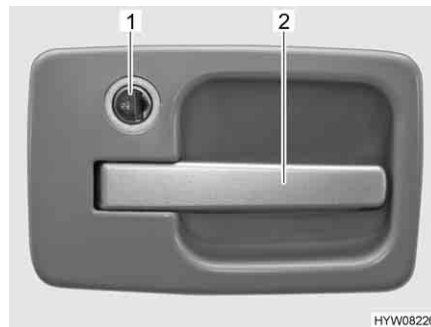

Fig. 26 Door lock of conversion door, outside
- Insert the key into the locking cylinder (Fig. 26,1) and turn towards the "U" symbol. The door lock is unlatched.
- Pull on the handle (Fig. 26,2). The door is open.
- Insert the key into the locking cylinder (Fig. 26,1) and turn towards the "🔒" symbol. The door lock is locked.